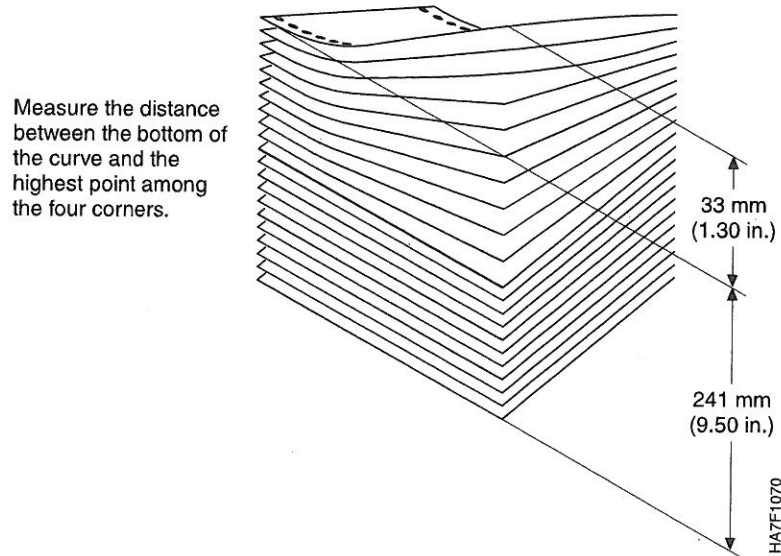

Figure 7. Dishing Effects for Processed Forms
Figure 7 shows the method for measuring dishing for processed forms. Dishing should not exceed 0.137 times the stack height. For example:
- Heat from the high-temperature fusing station causes uneven shrinking of the form and distorts the shape of the stack (as shown in Figure 7 on page 11).